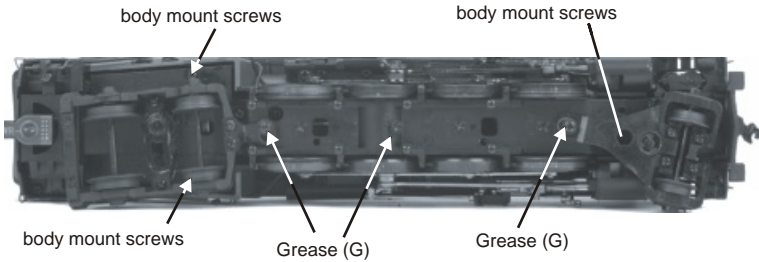

Figure 8: Removing the Body and Lubricating the grease points
2. Remove the Phillips screws (marked “GREASE”) located at each set of wheels and under pick up rollers (Fig. 8).
You should also grease the leading and trailing locomotive truck tongues to enhance their ability to slide on the chassis. Follow the grease points shown on Fig. 8.
2. Remove the 3 body mount screws shown in Fig 8.
If you experience poor or no smoke output when the smoke unit is on and has fluid, check the wick to see if it has become hard, blackened, and unabsorbent around the heating element. To remove the smoke unit you will first have to remove the boiler shell (by removing the body mounting screws shown in Fig 8 on pg. 13), board and bracket that block the smoke unit assembly from being accessed.